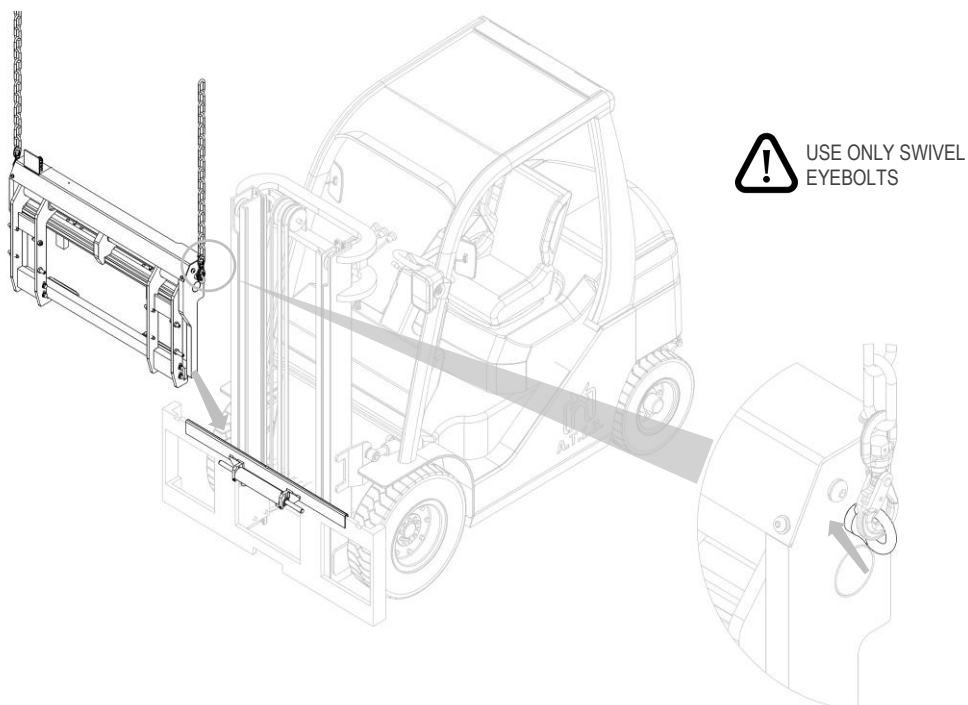

Figure 4
- Only swivel eyebolts can be used for handling, which must be screwed into the holes provided on the sides (see detail *Figure 4*).
- Hook on the equipment by the eyebolts and use an overhead crane or hoist of sufficient capacity to place it on the double coupling, taking care to position it correctly (see *Figure 4*).